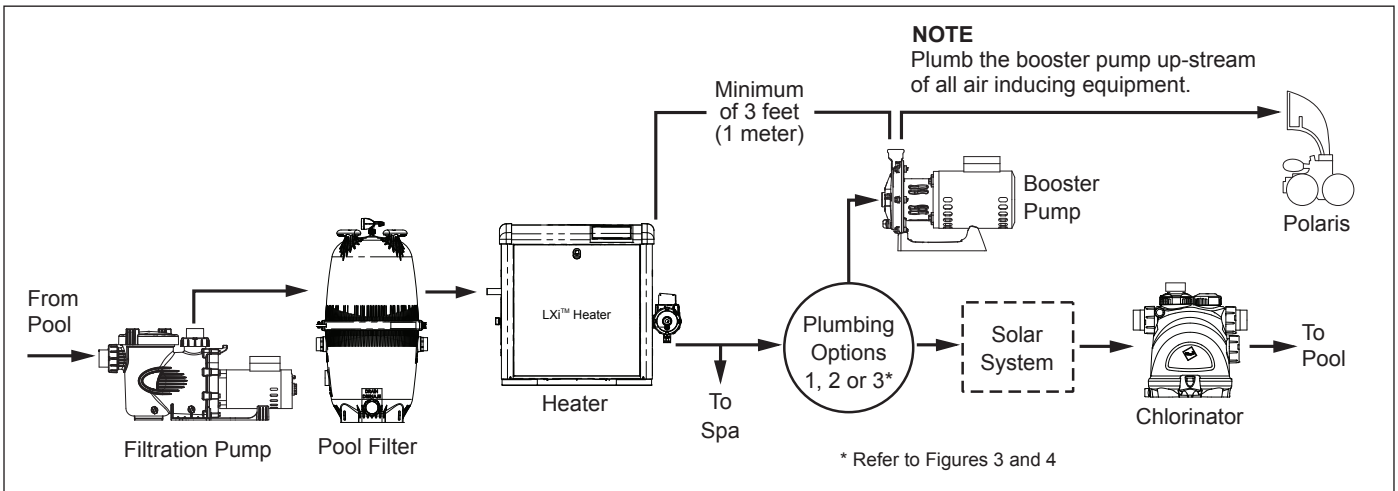

Figure 2. Typical Equipment Layout
To ensure proper function of the pump and the cleaner, refer to Figure 2 and adhere to the following guidelines for specific equipment.
downstream and at least three (3) feet (1 meter) from the heater discharge. See Figure 2. **Do not tap the booster pump inlet into the three-foot (1 meter) section of heat sink pipe that comes directly out of the heater.**